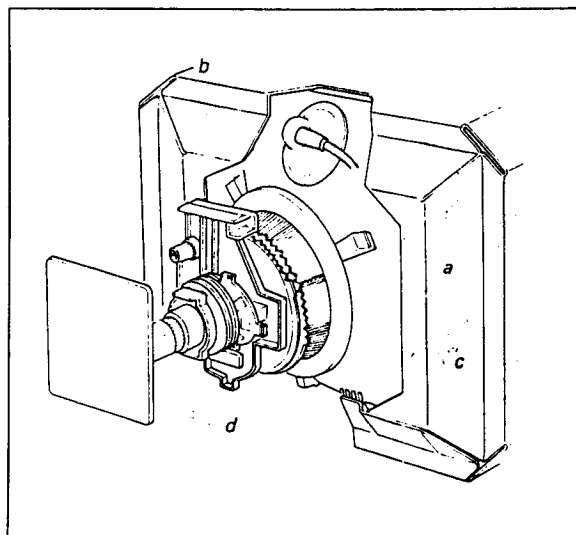
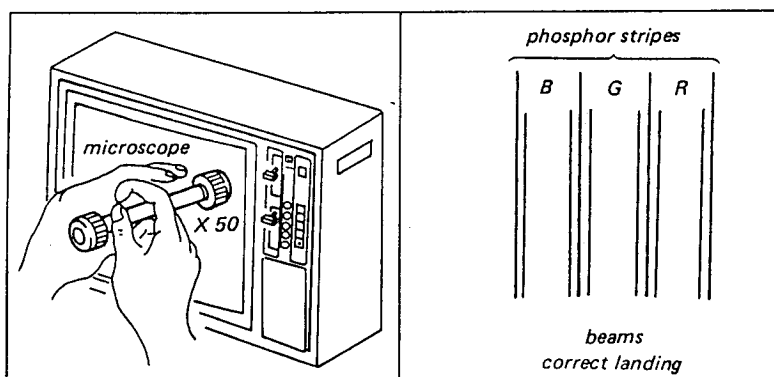

Fig. 3-4. Adjustment of corner mislanding by affixing a small disk magnet
Fig. 3-5. Beam landing check by using a microscope
10. Tighten the deflection yoke fixing screw, and remove the top rubber spacer inserted in step 5., then reinsert the three rubber spacers (wedge-shaped) as shown in Fig. 3-4.
11. For precise beam landing adjustment, use a 50X microscope, or equivalent as shown in Fig. 3-5 while receiving a crosshatch pattern. The microscope should be placed directly against the faceplate of the tube under observation. Correct beam-landing is obtained by back and forth movement of deflection yoke or applying a small disk magnet as shown in Fig. 3-4.